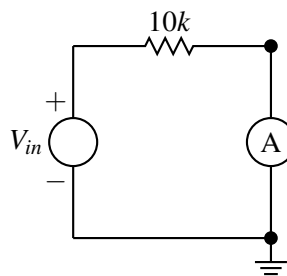

Figure 1.4: Closed Circuit. This diagram is equivalent to that in Fig. 3.
2. Using your diode from Problem 1, construct each circuit shown in Figs. 1-4. Keep V_{in} the same for all: an 8 V pp 1 kHz sine wave with no DC offset. Observe V_{out} using the scope with both channels in DC mode, and make sure that you have GND for both channels at the same level. FYR: For each circuit, sketch your observed V_{out} as well as V_{in} together in the same graph. Based on your observations for all four circuits, give a rule for how the diode behaves depending on the voltage conditions applied to it. It should be similar to an if/else statement: if this happens, then the diode does that, otherwise something else happens... etc. Use this rule to label the regions in each graph where the diode is “on” (conducting) and “off” (not conducting). It may help to think back to how a voltage divider works.